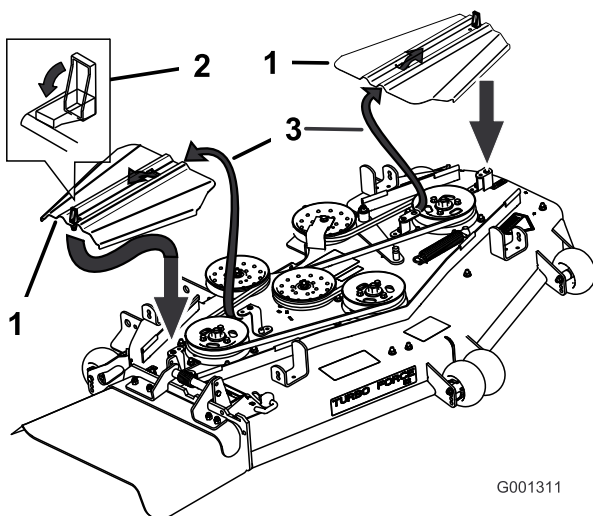

Figure 55
10. Install the belt covers and close the latches (Figure 55).